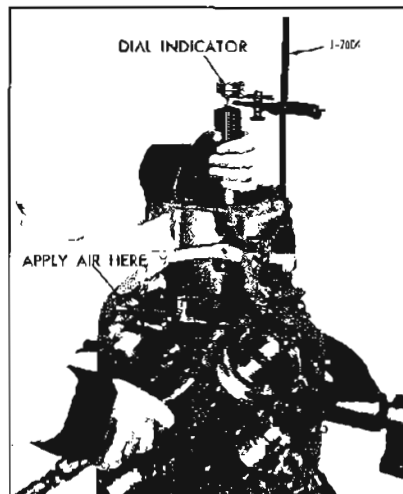

Figure 5-700A
a. Install J-7004 into an extension housing attaching bolt hole. See Figure 5-700A.